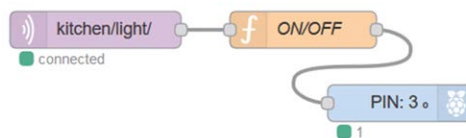

Figure 18.20 *Flow program of the project*
Node-RED flow program: Figure 18.20 shows the flow program for the Raspberry Pi which consists of just 3 nodes: an **mqtt in** node, a **function** node, and a **rpi gpio out** node.
- Connect all the nodes as in Figure 18.20 and click **Deploy**.